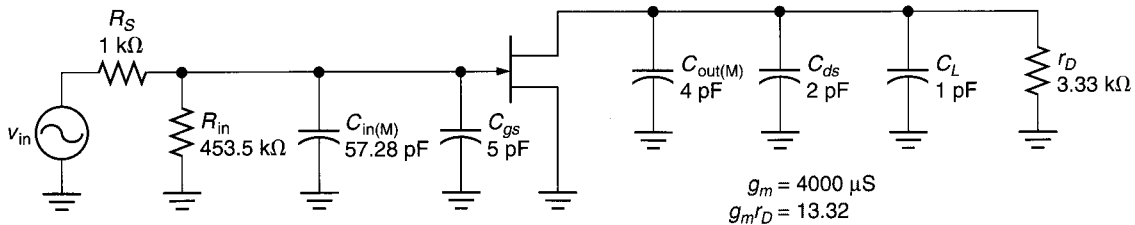

FIGURE 14.27
**Solution:** The first step is to draw the high-frequency equivalent of the circuit. This equivalent circuit is shown in Figure 14.27.